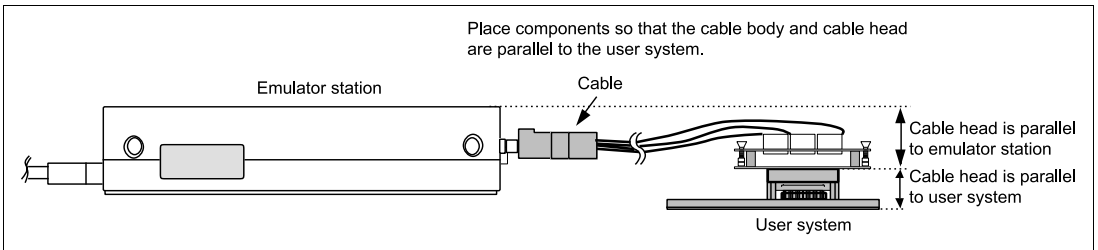

Figure 10 User System Interface Cable Location Example
| Figure 10 | User System Interface Cable Location Example | 15 |
5. While the emulator station is connected to the user system with the user system interface cable, force must not be applied to the cable head. Place the emulator station, user system interface cable, and user system as shown in the example in figure 10.